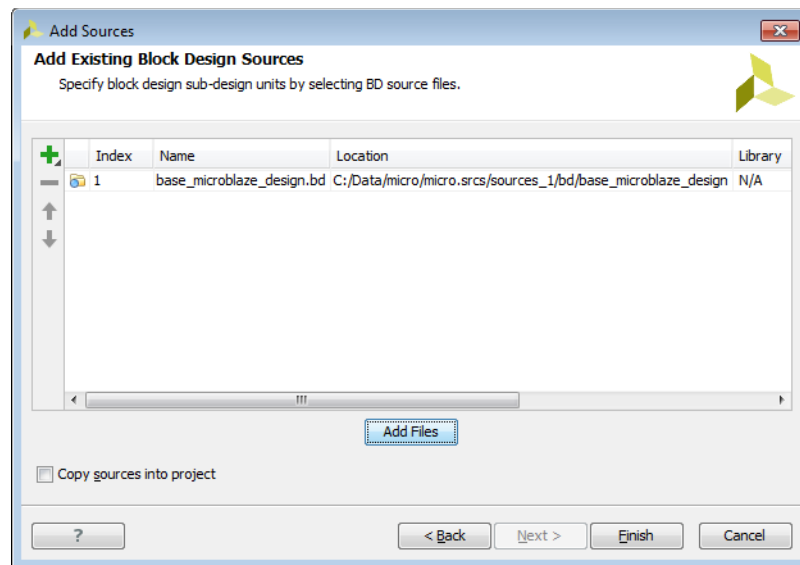

Figure 3-11: Add Sources Wizard—Add Existing Block Design Sources
3. In the Add Existing Block Design Sources dialog box (Figure 3-11), set the following options, and click **Finish**:
- **Add Files:** Click on the '+' sign and select the **Add Files** command to open a file browser in which you can select IP integrator block designs (BD) files to add to the design.